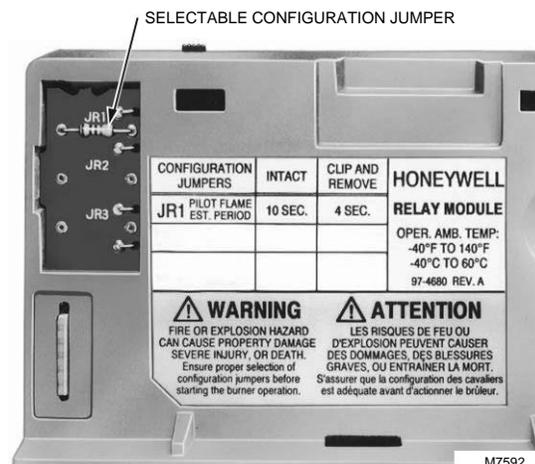

Fig. 16. Selectable site-configurable jumpers.
The RM7824A has one site-configurable jumper option, see Fig. 16 and Table 4. The site-configurable jumper should be clipped with side cutters and the resistor removed from the Relay Module.0
3. Insert the positive (red) probe into the (+) jack of the flame amplifier and the negative (black) probe into the (-) (Com) jack of the flame amplifier (see Fig. 16).